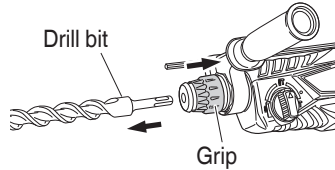

Fig. 3
- (3) Check the latching by pulling on the drill bit.
- (4) To remove the drill bit, fully pull the grip in the direction of the arrow and pull out the drill bit. (Fig. 3)